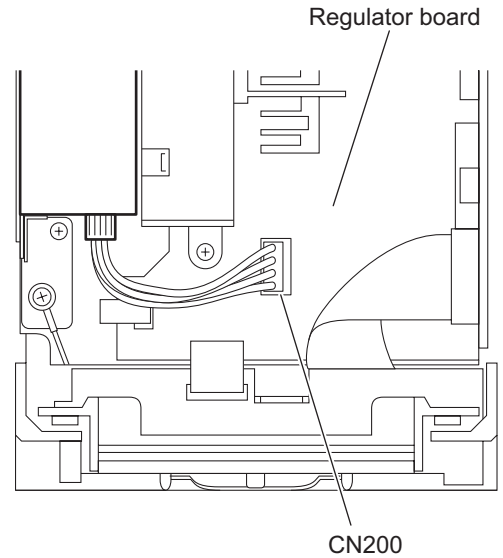

Fig.13
3.1.6 Removing the switching power supply (See Figs.13 and 14)
- From the top side of the main body, disconnect the wire from the connector CN200 on the regulator board. (See Fig.13.)